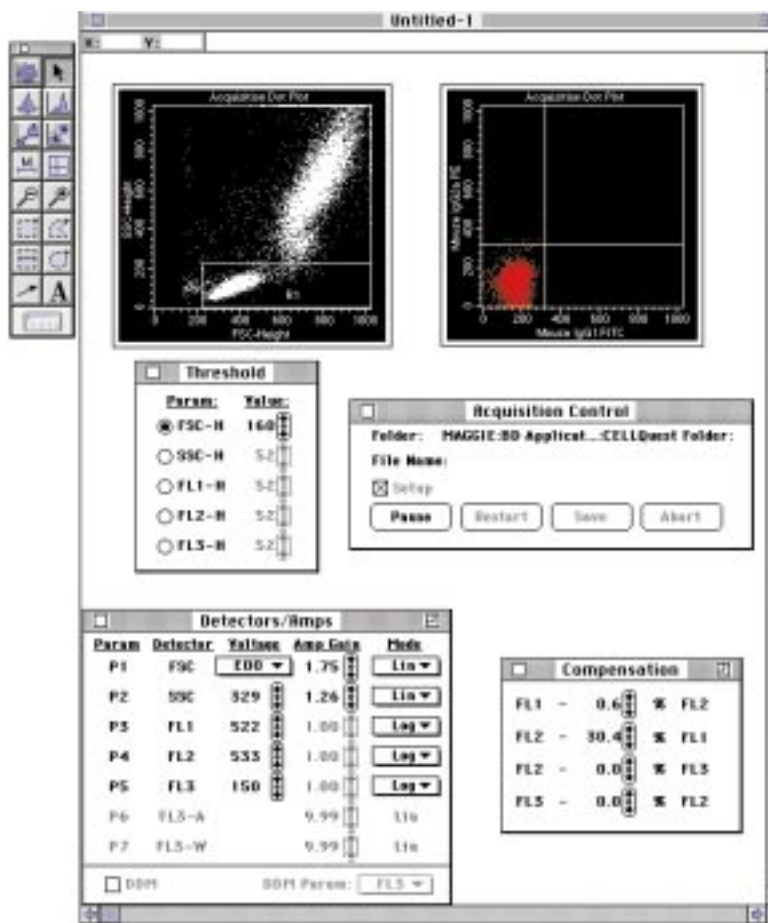

Figure 4 Acquisition display for sample optimization.
5. Present a Simultest sample tube (CD3 FITC/CD19 PE is recommended) to the cytometer using the FACS Loader with the control keypad. Click Acquire in the Acquisition Control window. Optimize the cytometer by adjusting the FSC and SSC Amp Gain, and the FSC threshold. Adjust region R1 to include the lymphocyte population. Adjust fluorescence markers and check compensation. Click Pause and Abort when done. Refer to the *SimulSET Software User's Guide* on SimulSET two-color optimization (see Figure 4).